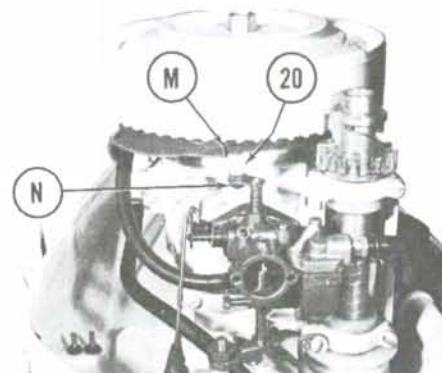

Fig. C2-2—The carburetor throttle valve should just begin to open when mark (M) on cam is aligned with center of roller (20).
To check the linkage, turn the speed control grip until the mark (M—Fig. C2-2) is aligned with center line of roller (20). The carburetor throttle valve should just start to open. To adjust, align mark (M) with center of roller (20), loosen nut (N) and position roller stud so that roller is against cam with throttle still closed. Retighten nut (N) and recheck. Make certain that roller is against cam when mark (M) is aligned, but throttle must not be partially open.